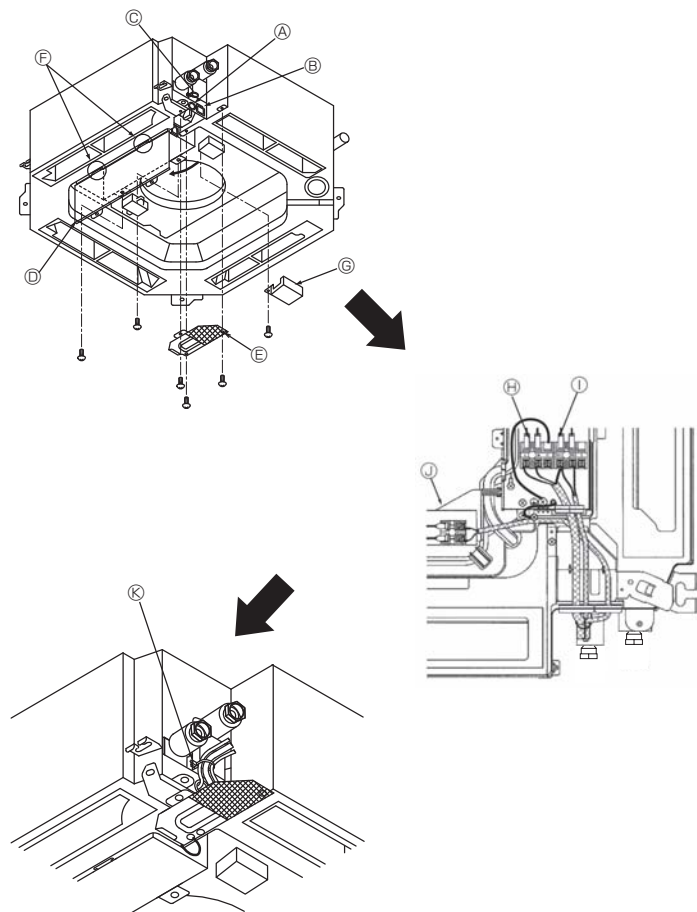

Fig. 5-1
5.1. Binnenapparaat (Fig. 5-1)